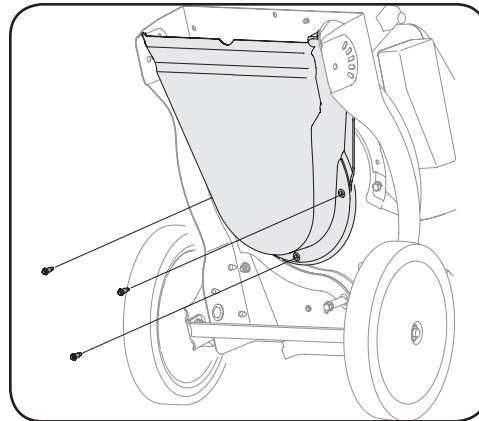

Figure 5-7
7. Carefully tilt and support the unit up to provide access underneath to the nozzle mounting hardware and impeller. Remove the three shoulder bolts securing the black plastic lower flail housing to the lower housing. Refer to Figure 5-7.